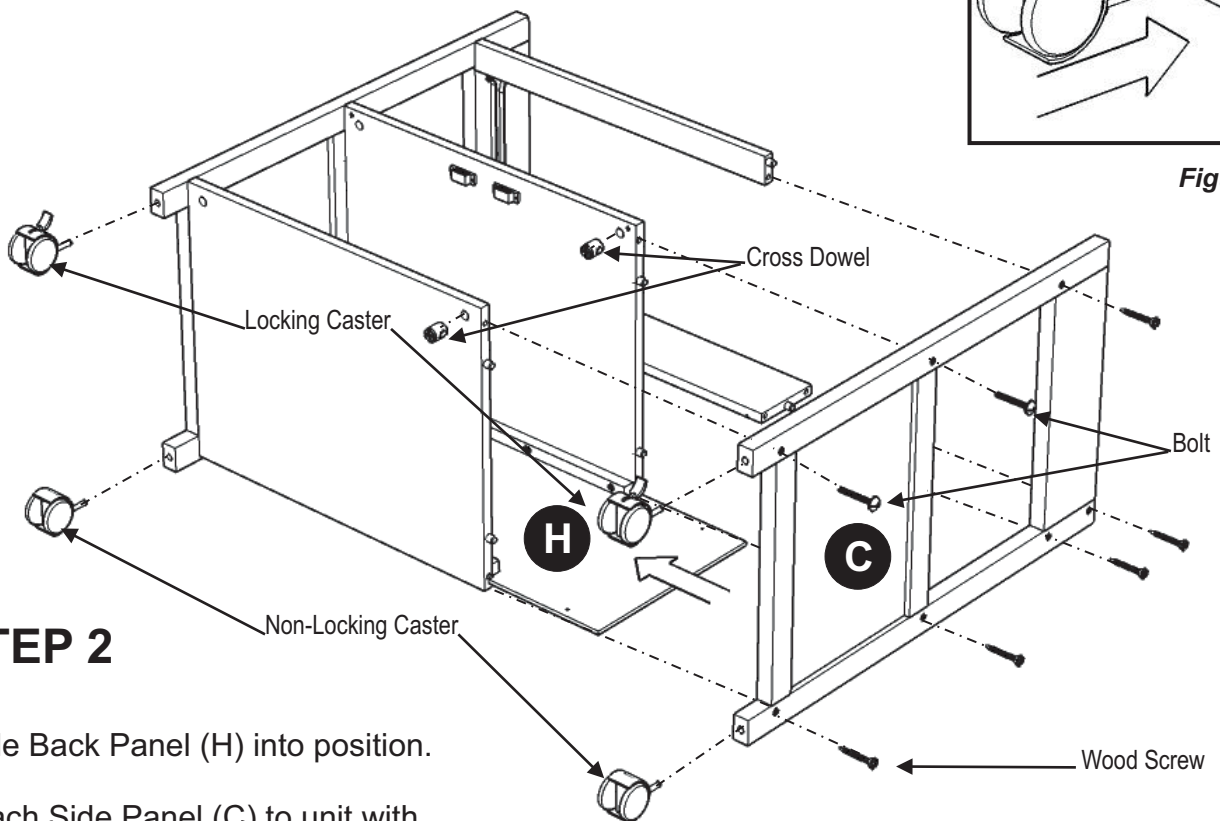

Figure 2
Attach 2 Locking and 2 Non-Locking Casters to bottom of Side Panels (B) and (C). (See Figure 2)
Slide K5 into the grooves in K3 and K4. Be sure to push K5 all the way forward so it meets K1. (See Figure 2)